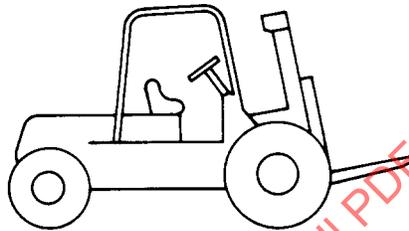

FIGURE 8—
- 4.2.1 Rear Steer, Mast with Forks (see Figure 8)